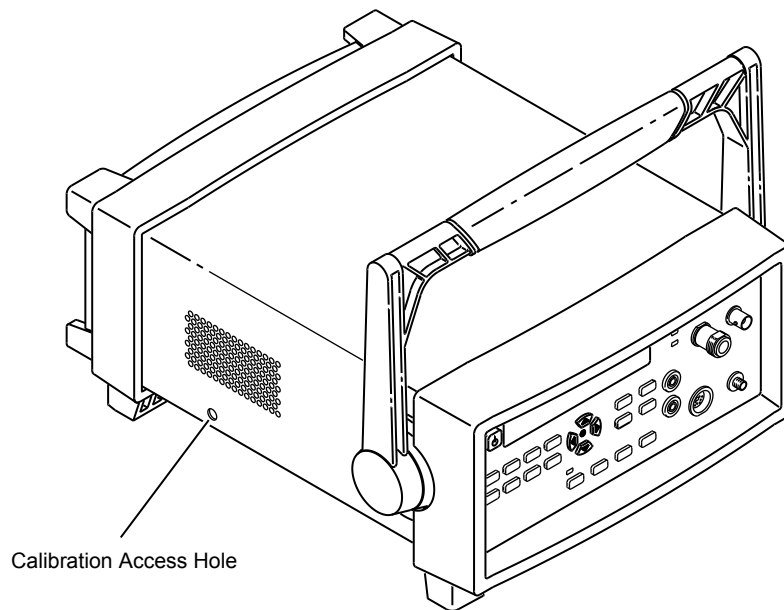

Figure 2-1 Calibrating the 10 MHz Frequency Reference Oscillator
- 3 If there is a label covering the calibration adjustment access hole, remove it (see Figure 2-1).